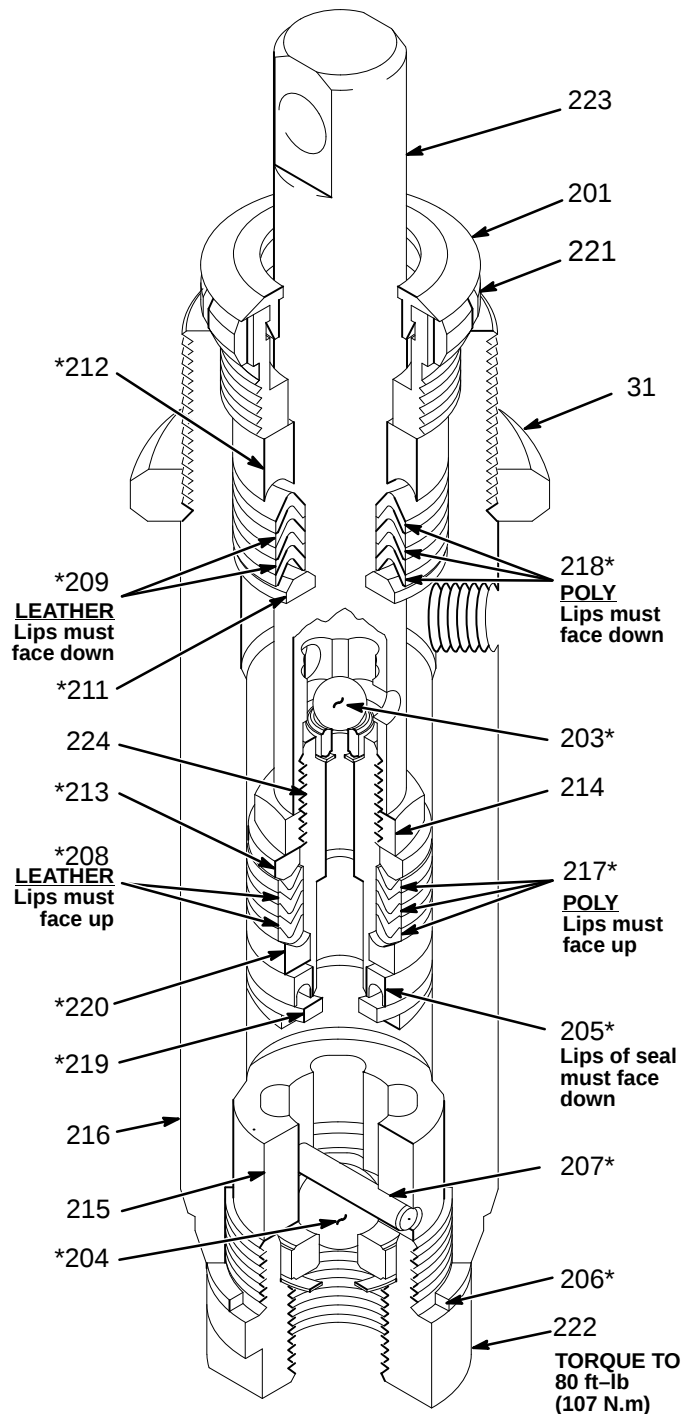

Fig 14
Disassembly. See Fig 14, except where noted.
- B. Clean all parts thoroughly. Check the outside of the piston rod (223) and the inside of the cylinder (216) for scoring or scratches, which prevent the packings from sealing properly. Replace all worn parts.
- C. Alternate polyethylene and leather packings as shown in Fig 14. Notice that:
- the lips of the U-cup seal (205) face down.
1. Stack the backup washer (219*), U-cup seal (205*) *lips down*, and female gland (220*), alternate the polyethylene and leather v-packings (217*, 208*) *lips up*, and stack the male gland (213*) onto the piston valve (224). See Fig 14.
5. One at a time, stack these parts into the top of the cylinder (216): male gland (211*), alternately the polyethylene and leather v-packings (218*, 209*) *lips down*, female gland (212*). See Fig 14.
6. Loosely install the packing nut (221) and plug (201).
7. Insert the oiled piston rod (223) into the bottom of the cylinder.
8. Assemble the intake valve. Use a new gasket (206*). Screw the valve into the cylinder and tighten to 80 ft-lb (107 N.m). See Fig 14.
9. Screw down the cylinder locknut (31) until it is finger tight at the bottom of the external cylinder threads. See Fig 14.